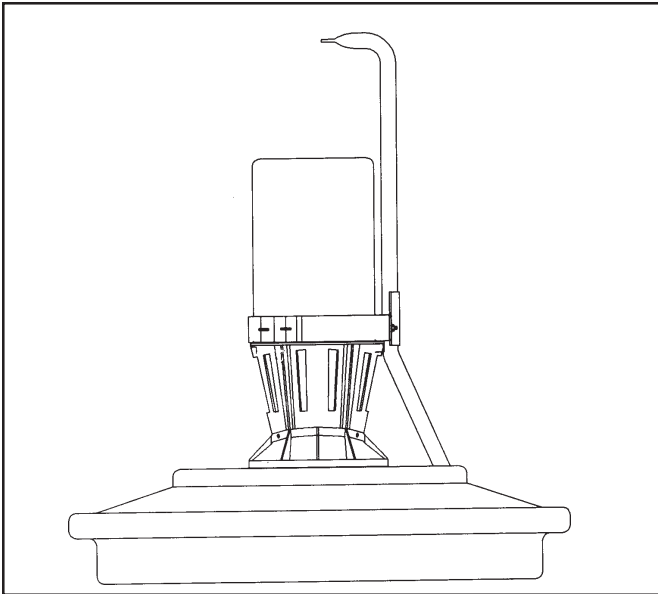

Figure 15
D. Placing motor unit in float. - see Figure 15